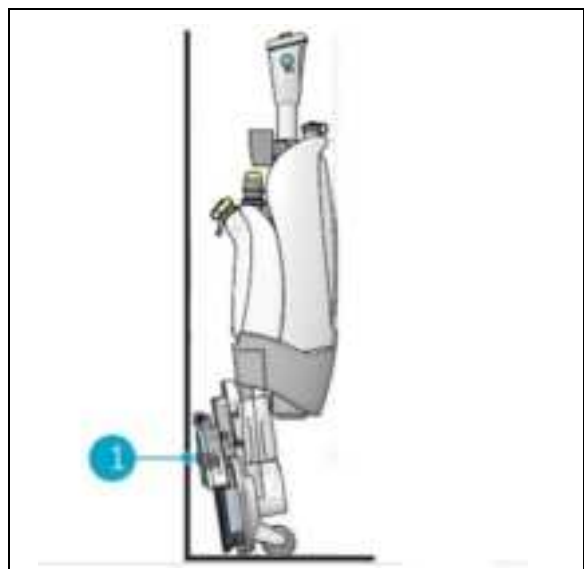

Figure 27
3. Store the i-mop XL plus close to a wall (Figure 27, pos 1) with the handle pointing facing away from the wall and the brushes towards the wall.